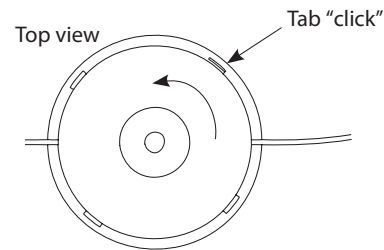

Fig.36
8. Reassemble by lining up the 4 tabs on trimmer head body and bottom. Turn CCW until "click" (Fig. 36).